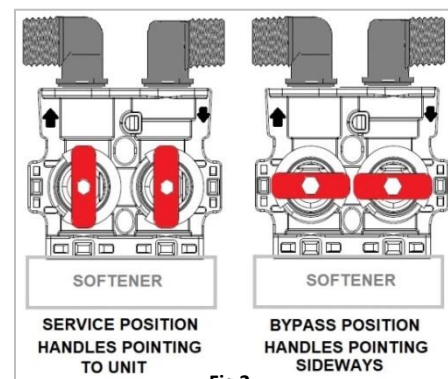
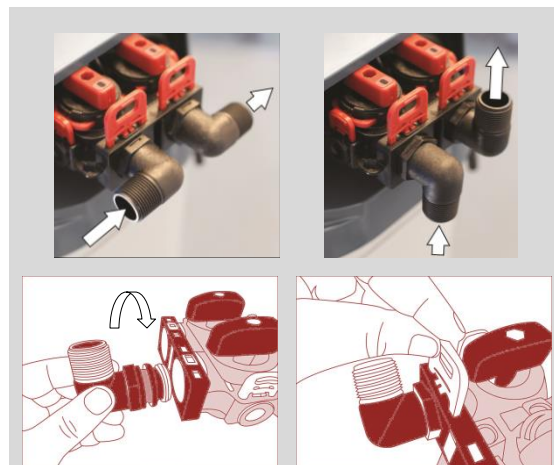

Fig 2
Fig 3
**BEFORE YOU BEGIN INSTALLATION, CONFIRM THE INLET AND OUTLET OF THE UNIT AND IDENTIFY THE SERVICE AND BYPASS POSITIONS OF THE VALVE.** The bypass valve is used to isolate the unit from the plumbing system in order to perform maintenance or repairs on the unit. During normal use the bypass valve should be in “SERVICE” position and to isolate it, the valve should be turned to “BYPASS” position (**Fig 2**).
- Position the softener in the desired location. The unit comes with two 90° ¾" male NPT elbow connections (see **Fig 3**). You can turn them at any angle to suit your installation. **Make sure that the bypass valve is in bypass mode as shown in Fig 2.**
- Note:** To change the connection fitting, simply remove the locking clips by hand and pull the fitting out. Insert new fitting and reinstall locking clip (**Fig 2**).